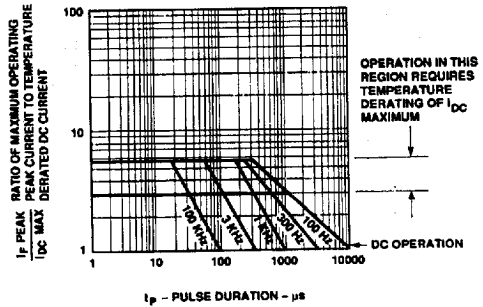

Figure 8. Maximum Tolerable Peak Current vs. Pulse Duration - Yellow.
7. See Figure 8 to establish pulsed conditions.